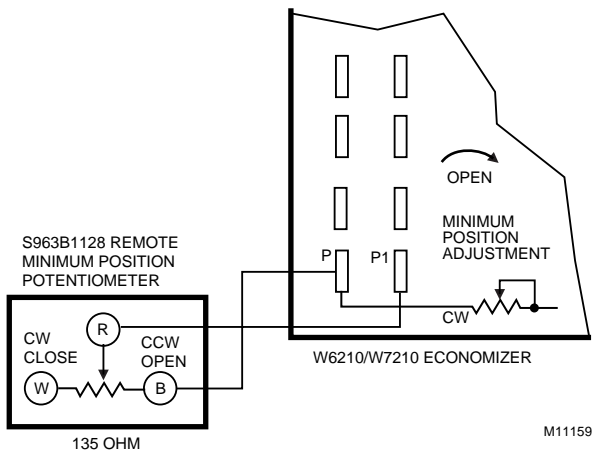

Fig. 3. S963B1128 Remote Minimum Position Potentiometer used with W6210/W7210 for remote damper control.
Remote control of outdoor air dampers is desirable when temporary additional ventilation is required. The potentiometer in the W6210/W7210 controls the minimum position of the dampers. The addition of an S963B1128 Remote Minimum Position Potentiometer allows occupants to open dampers beyond minimum position for additional ventilation. Connect the potentiometer as shown in Fig. 3.
2. Make sure either the factory-installed jumper is in place across terminals P and P1 or, if remote damper position is required, that it is wired according to Fig. 3 and turned fully clockwise .